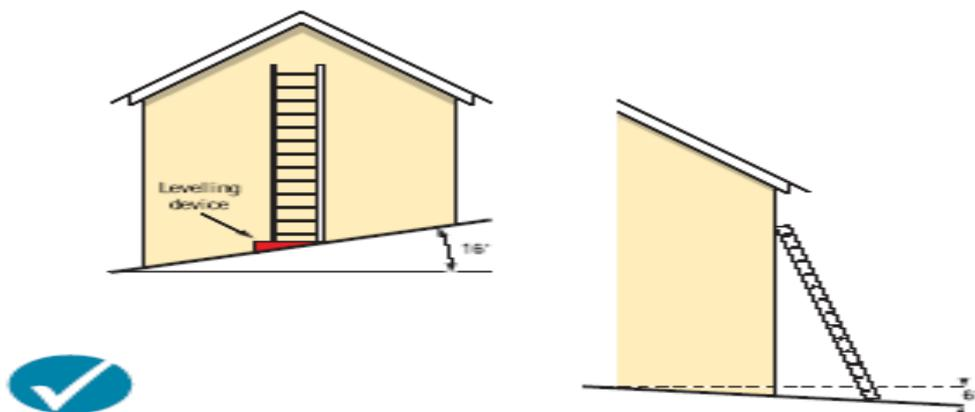

Figure 3 *Ladder showing maximum angles at 16o on a side slope and 6o on a back slope*
- side slope 16o – but the rungs still need to be levelled (see Figure 3);
- back slope 6o (see Figure 3);